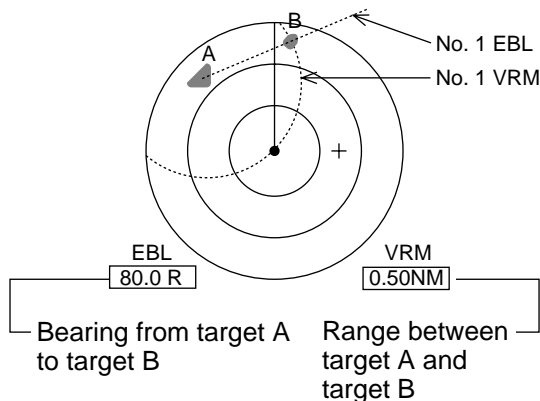

Figure 1-18 Measuring range and bearing between two targets
1. Press the [EBL ON] key to activate the No. 1 EBL. Press the [EBL OFFSET] key, and place the origin of the No.1 EBL on a target of interest (target 1 in Figure 1-18) by operating the trackball.
2. Turn the EBL rotary control until the EBL passes through another target of interest (target 2 in Figure 1-18).
- Turn the VRM rotary control until the range marker on the No. 1 EBL aligns with target 2 in Figure 1-18. The active VRM readout at the lower-right corner of the screen indicates the distance between the two targets.